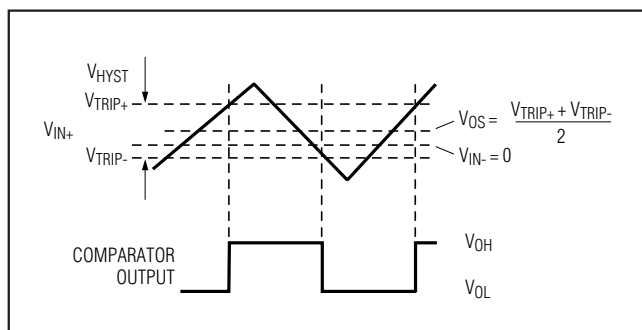

Figure 1. Input and Output Waveforms, Noninverting Input Varied
- Note 3:** V_{OS} is defined as the mean of trip points. The trip points are the extremities of the differential input voltage required to make the comparator output change state (Figure 1).
- Note 4:** The difference between the upper and lower trip points is equal to the width of the input-referred hysteresis zone (Figure 1).
- Note 5:** Propagation Delay is guaranteed by design. For low overdrive conditions, V_{TRIP} (Figure 1) is added to the overdrive.
High-speed comparators can oscillate in the linear operating region because of noise or undesired parasitic feedback. This tends to occur when the voltage on one input is equal to or very close to the voltage on the other input. The MAX976/MAX978/MAX998 have internal hysteresis to counter parasitic effects and noise. The hysteresis in a comparator creates two trip points: one for the rising input voltage and one for the falling input voltage (Figure 1). The difference between the trip points is the hysteresis. When the comparator input voltages are equal, the hysteresis effectively causes one comparator input voltage to move quickly past the other, taking the input out of the region where oscillation occurs.
Figure 1 illustrates the case where $IN-$ has a fixed voltage applied and $IN+$ is varied. If the inputs were reversed, the figure would be the same, except with an inverted output.